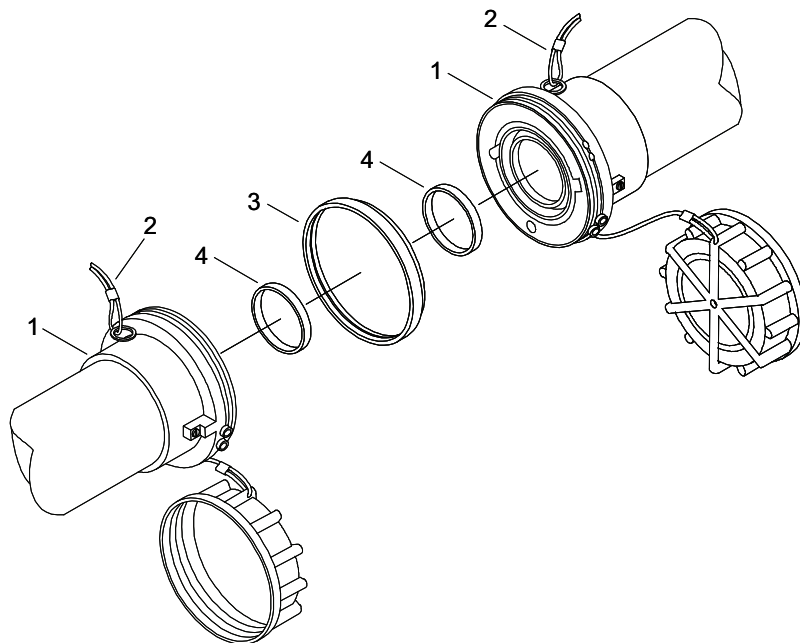

Figure 2. Fuel System With Non-Valved Unisex Coupling Halves.
1. Place drip pans under unisex coupling halves (Figure 2, Item 1) to be disconnected.
2. Pull rings (Figure 2, Item 2) while rotating one unisex coupling half (Figure 2, Item 1) counterclockwise.
- a. Disconnect unisex coupling halves (Figure 2, Item 1).
- b. Remove bumper (Figure 2, Item 3).
- c. Remove and discard defective gaskets (Figure 2, Item 4).
- a. Install new gaskets (Figure 2, Item 4) on coupling half (Figure 2, Item 1).
- b. Install bumper (Figure 2, Item 3).
- c. Align unisex coupling halves (Figure 2, Item 1) together.
- d. Rotate the one unisex coupling half (Figure 2, Item 1) clockwise to connect unisex coupling halves (Figure 2, Item 1).
- e. Ensure unisex coupling halves (Figure 2, Item 1) are securely connected.